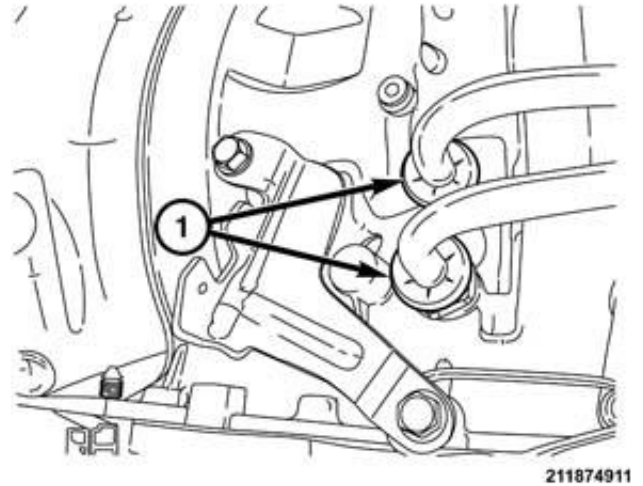

Figure 29 – Jiffy Tite Locking Covers
66. Unclip the Jiffy Tite locking covers (1) and slide them back onto the transmission lines (Figure 29).